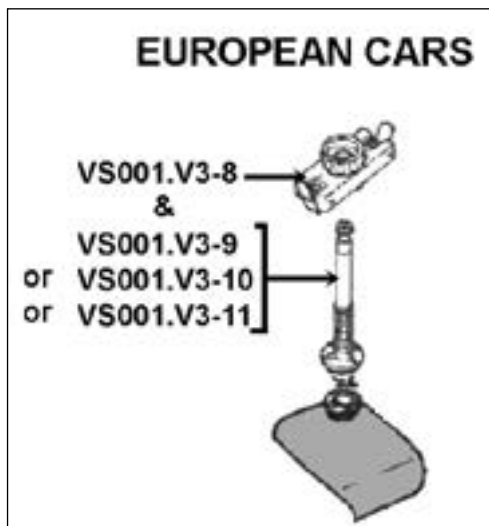

fig.1
- 3.1.5. Expansion tank (European). See fig.1.